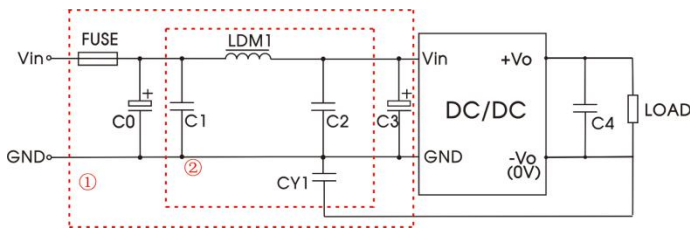

Fig.3
Notes: For EMC tests we use Part ① in Fig. 3 for immunity and part ② for emissions test. Selecting based on needs.